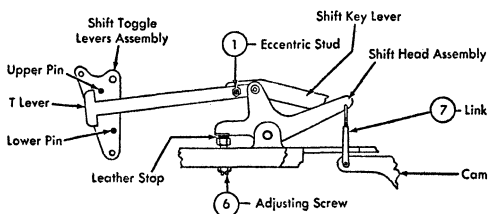

Figure 12. Shift Head Assembly
To move the eccentric, insert a small screwdriver through a hole in the left side frame. Loosen the hex-lock nut with the 12-point box wrench and rotate the screw to the desired position, then re-tighten the hex-nut (Figure 12).
6. PIN CLEARANCE $\frac{1}{16}$ ". The clearance between the T lever and the pins should be approximately $\frac{1}{16}$ ". With the basket in the upper case this clearance can be checked from the bottom of the machine. Regulate this clearance by turning the stop retaining screw. Turning this screw in will decrease the pin clearance (Figure 12).
7. **CAM.** Adjust the cam so that the release lever falls on the rear of the cam lug (Figure 12).